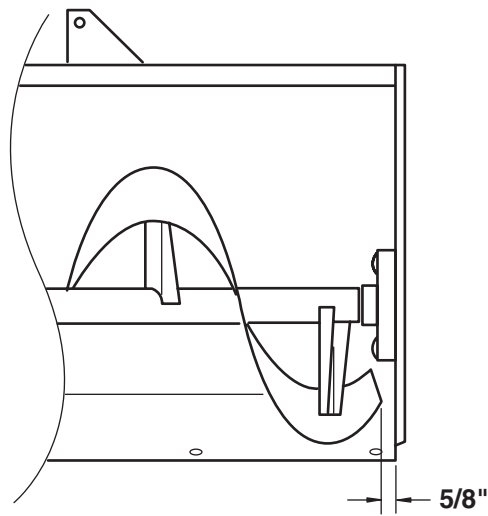

Figure 2
4. Check the clearance between the auger and the end panel of the left-hand side of the snow blower (from the operator's position). (See Figure 2) There should be 5/8" clearance to prevent any interference between the auger and nuts assembled in Step #3. If any adjustment is necessary, use a hammer or crescent wrench to bend the end of the auger.